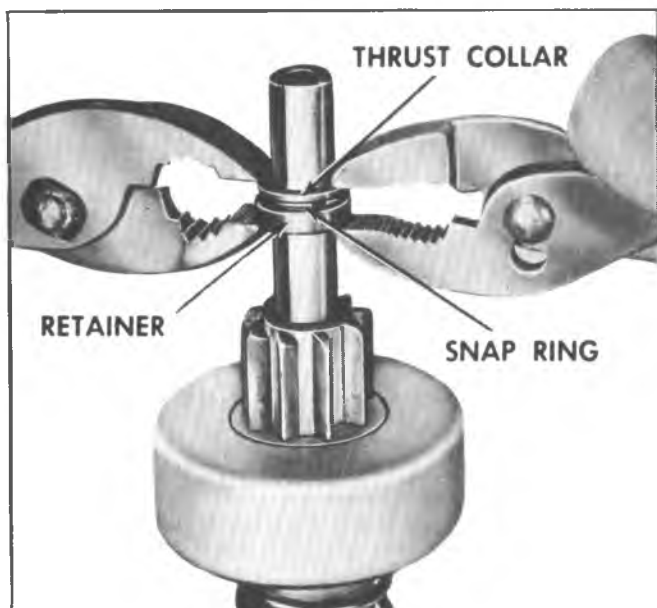

Fig. 10S-Forcing Snap Ring Into Retainer
- f. Place armature flat on work bench, and position retainer and thrust collar next to snap ring. Then using two pair of pliers at the same time (one pair on either side of shaft), grip retainer and thrust collar and squeeze until snap ring is forced into retainer (fig. 10S).